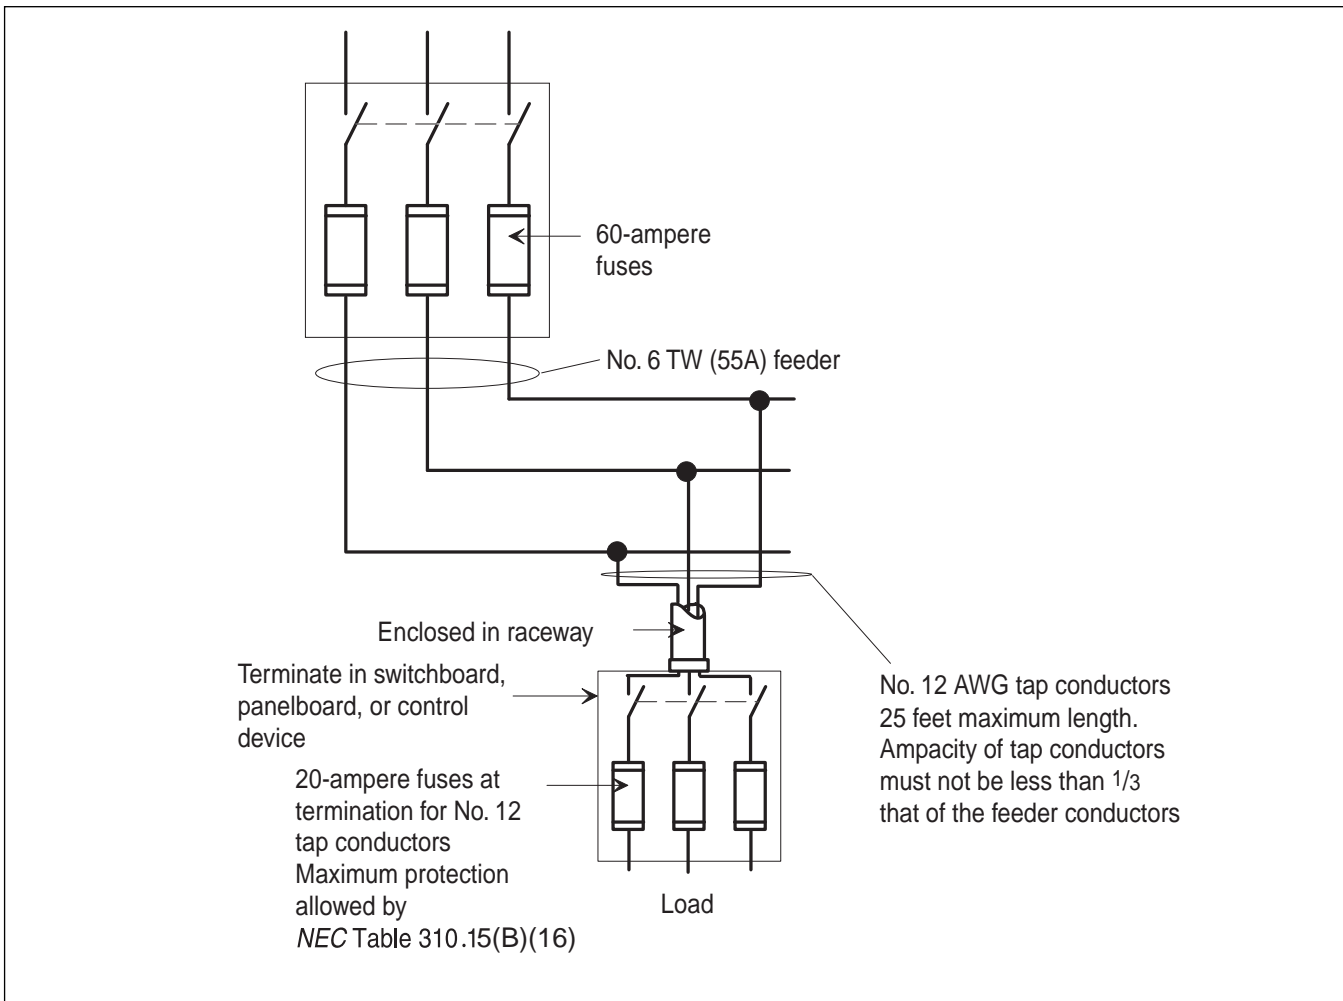

Figure 6-7: Summary of NEC 25-foot tap rule
NEC Section 240.21(B)(2) requires that feeder tap conductors must not be over 25 feet in length and the ampacity of the tap conductor must be not less than one-third that of the feeder conductor. Therefore, answer C (33¹/₃%) is the correct answer. See Figure 6-7 on the next page.